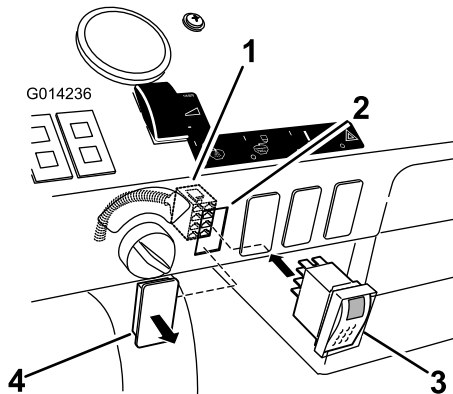

Figure 27
1. Locate the plug for the rinse tank switch on the dash (Figure 27). It is the first plug over from the ignition key.
2. Remove the plug from the dash (Figure 27).
4. Install the switch to the box connector, through the dash (Figure 27).